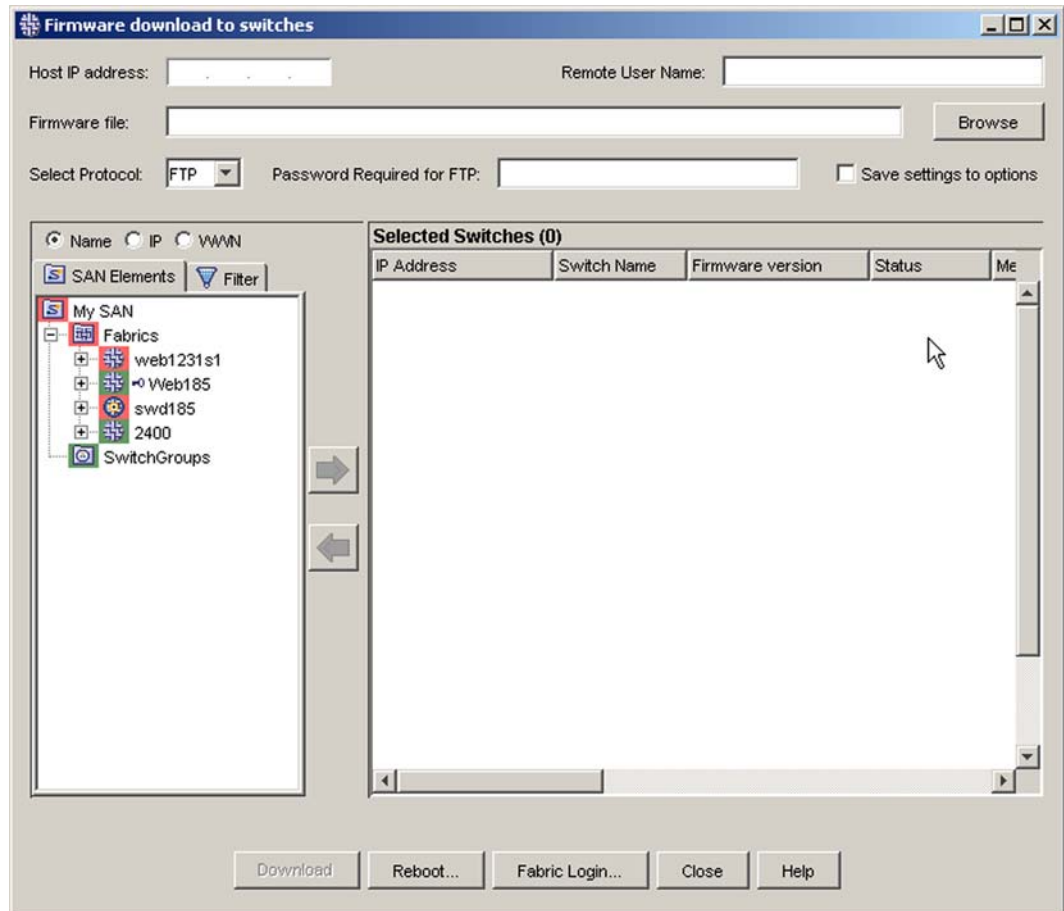

Figure 18: Firmware Download to Switches Window
2. From the **Tools** menu, select **Firmware download to switches**. The Firmware download to switches window opens; see Figure 18.